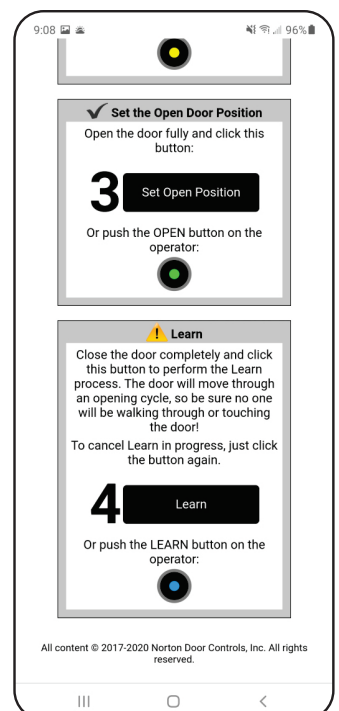

Figure 24
2. Open door to the fully open position. Holding the door in this position, select “Set Open Position” in Step 3. (Figure 24)
3. Manually close the door and select “Learn” in Step 4 to initiate the Learn process. (Figure 24)